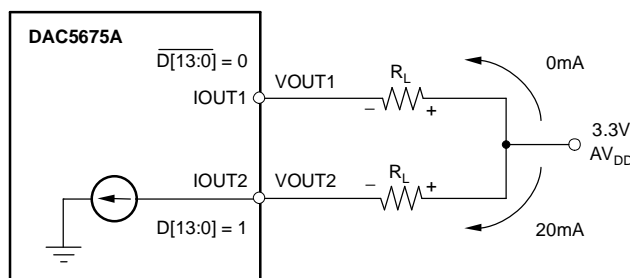

Figure 21. Relationship Between D[13:0], IOUT1 and IOUT2
The output current flow in each pin driving a resistive load can be expressed as shown in Figure 21, as well as in Equation 2 and Equation 3.
Figure 22 shows a simplified schematic of the current sink array output with corresponding switches. Differential NPN switches direct the current of each individual NPN current sink to either the positive output node IOUT1 or its complementary negative output node IOUT2.  $D[13:0]$  controls the S(N)C current switches and  $\overline{D}[13:0]$  controls the S(N) current switches, as explained in the previous **DAC Transfer Function** section (see Figure 21). The output impedance is determined by the stack of the current sinks and differential switches, and is  $> 300k\Omega$  in parallel with an output capacitance of 5pF.